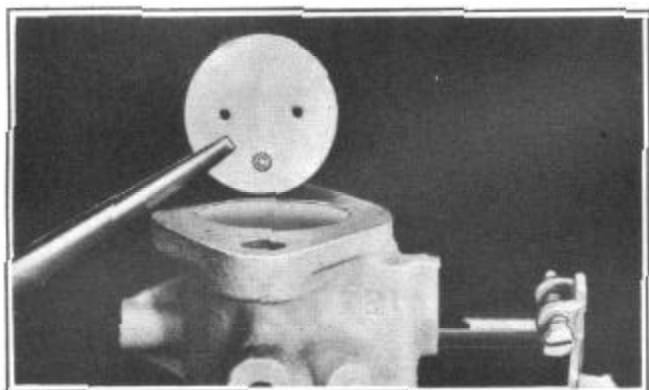

FIGURE 21
14. Remove throttle valve screws, valve and throttle shaft and lever assembly, Figure 21. Check shaft for wear or loose lever and throttle rod hole in lever for wear.